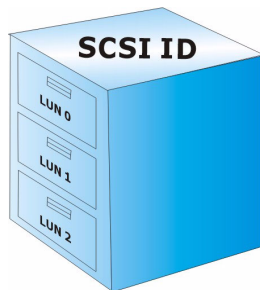

Fig. 2.3 SCSI ID/LUNs
Depending on the interface used by a RAID system, a SCSI channel (channel bus) can connect up to 15 drives (excluding the RAID controller itself). A Fibre Channel supports up to 126 drives in a loop. Depending on the subsystem design, a SCSI-based subsystem may have eight (8) disk drives connected through a drive channel while a SATA-based subsystem has one channel dedicated to each of its disk drive. Each device occupies one unique ID. The illustration belows shows the idea of mapping a system drive to host ID/LUN combinations (see *Figure 2.3*). The host ID is like a cabinet, and the drawers are the LUNs (LUN is short for Logical Unit Number). Each cabinet (host ID) contains up to 32 drawers (LUNs). Data can be made available through one of the LUNs of a host ID. Most host adapters treat a LUN like another device.